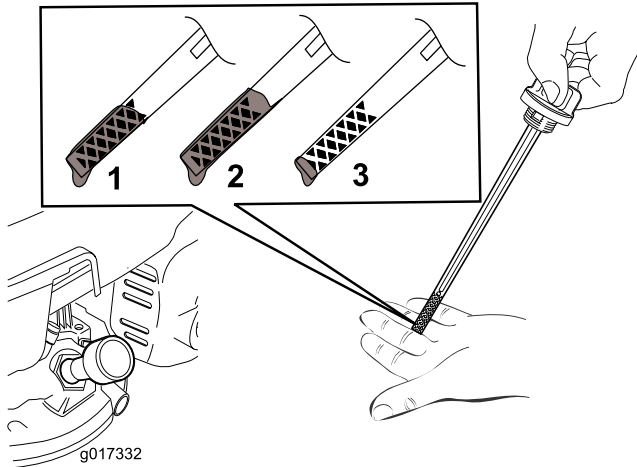

Figure 11
5. To determine the proper oil level on the dipstick, refer to Figure 11).
Note: Fill the engine crankcase with oil until the dipstick indicates that the engine oil level is correct as shown in Figure 11. If you overfill the engine with oil, remove the excess oil as directed in Changing the Engine Oil (page 14).